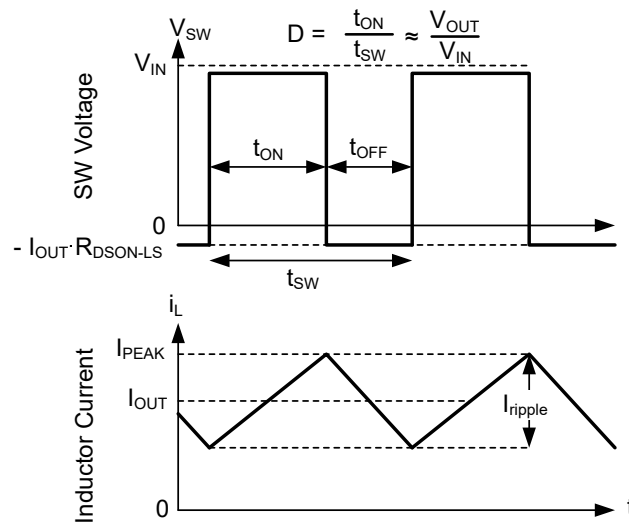

图 8-15. SW Voltage and Inductor Current Waveforms in Continuous Conduction Mode (CCM)
The following operating description of the device refers to 节 8.2 and to the waveforms in 图 8-15. In CCM, the device supplies a regulated output voltage by turning on the internal high-side (HS) and low-side (LS) switches with varying duty cycle (D). During the HS switch on time, the SW pin voltage, V_{SW} , swings up to approximately V_{IN} , and the inductor current, i_L , increases with a linear slope. The HS switch is turned off by the control logic. During the HS switch off time, t_{OFF} , the LS switch is turned on. Inductor current discharges through the LS switch, which forces the V_{SW} to swing below ground by the voltage drop across the LS switch. The converter loop adjusts the duty cycle to maintain a constant output voltage. D is defined by the on time of the HS switch over the switching period: